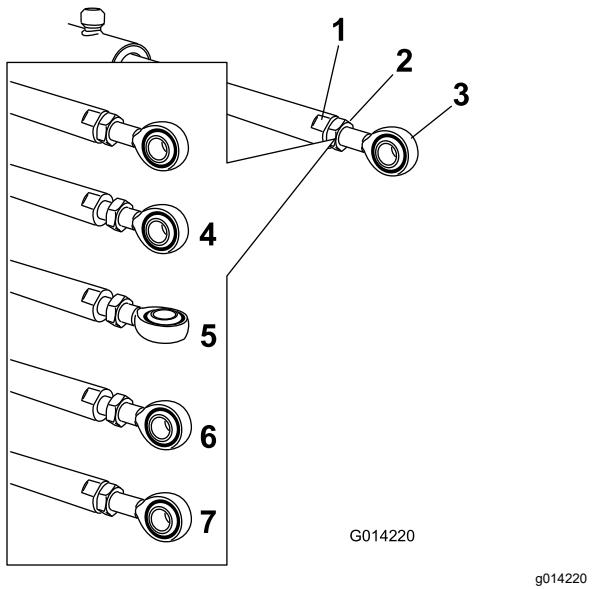

Figure 64
5. Use a wrench on the flat sides of the actuator rod to immobilize it, then loosen the jam nut to allow the eyelet rod to be adjusted (Figure 64).
6. Turn the eyelet rod in the actuator rod to shorten or lengthen the extended actuator to the desired position (Figure 64).